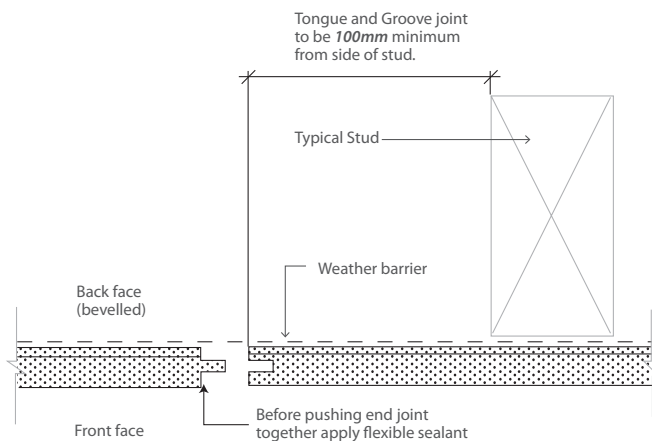
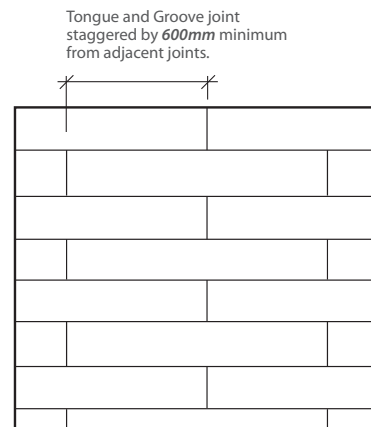

Figure 5 : Tongue and Groove Joint
Figure 6 : Staggered Joints
12. The ends of **PRIMA.alpha** WeatherClad are joined off-stud by means of tongue and groove edges. The tongue and groove joints must be at minimum of 100mm from the side of a stud, refer **Figure 5**. Joints must be staggered by a minimum of 600mm from the adjacent joints, refer **Figure 6**.